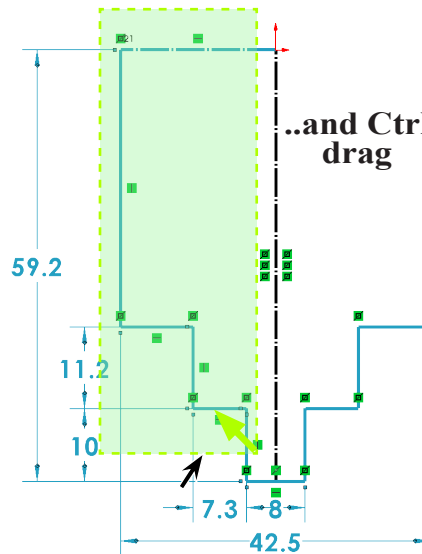

Fig. 7
Step 13. **Ctrl drag to left** to select all left of horizontal centerline to select all except horizontal centerline, Fig. 7.